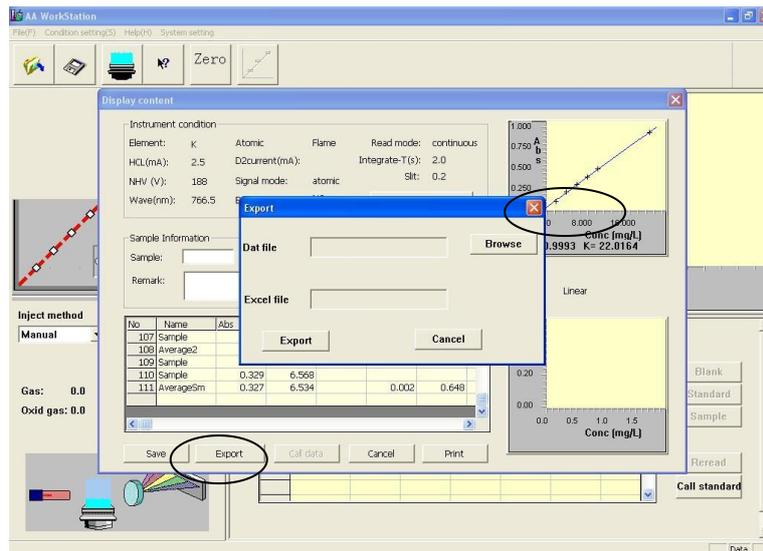

Figure 5-48
3. Press "Save", and screen will be shown as that in Figure 5-48. Enter the file name and press "Save" to save the file.